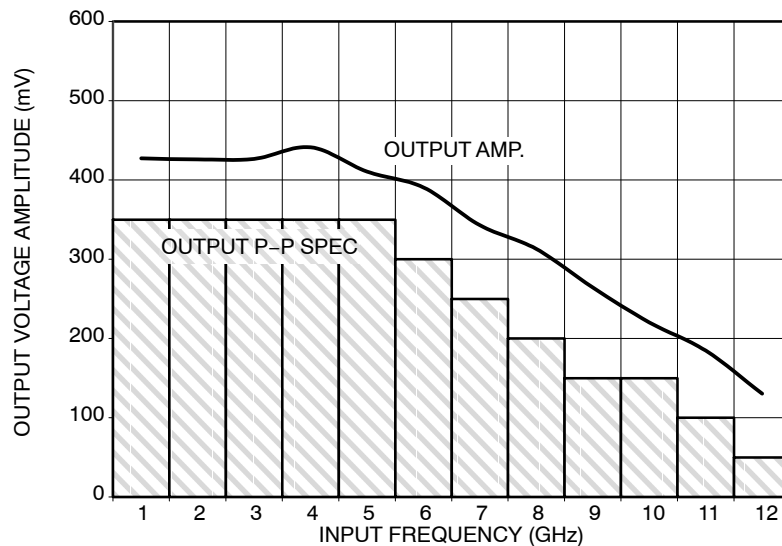

Figure 4. Output Amplitude (V_{OUTPP}) vs. Input Frequency (F_{IN}) at Ambient Temperature (Typical)
22. Measured using a 500 mV source, 50% duty cycle clock source. All loading with $50\ \Omega$ to $V_{CC} - 1.5\text{ V}$ for BGA package. For minimum f_{\max} value of 10.709 GHz, output amplitude is approximately 200 mV (as shown in Figure 4, where output P-P spec is shown as a minimum/guarantee of around 150 mV). Input edge rates 40 ps (20% – 80%).
27. Measured using a 500 mV source, 50% duty cycle clock source. All loading with $50\ \Omega$ to $V_{CC} - 2.0\text{ V}$ for QFN package. For minimum f_{\max} value of 10.5 GHz, output amplitude is approximately 200 mV (as shown in Figure 4, where output P-P spec is shown as a minimum/guarantee of around 150 mV). Input edge rates 40 ps (20% – 80%).